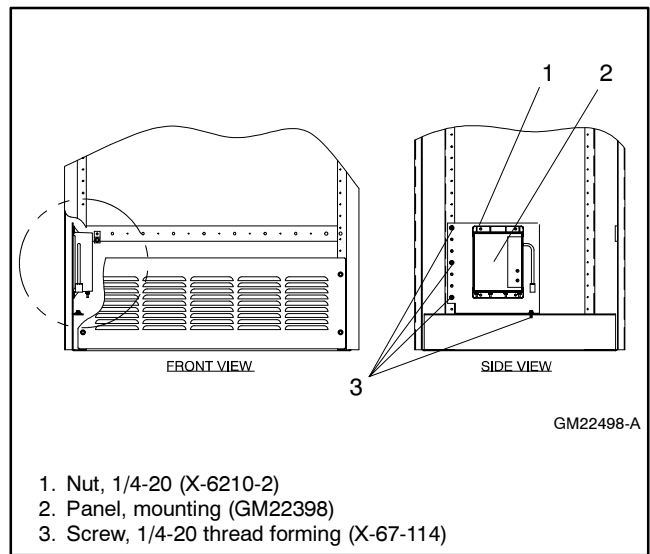

Figure 3 Installing the Transfer Switch Mounting Panel
- 2.2 **Kits GM22498-KP5 to GM22498-KP8 only.** Install the battery charger mounting panel (GM22398) using four 1/4-20 x 3/4 in. thread-forming screws (X-67-114) as shown in Figure 3.